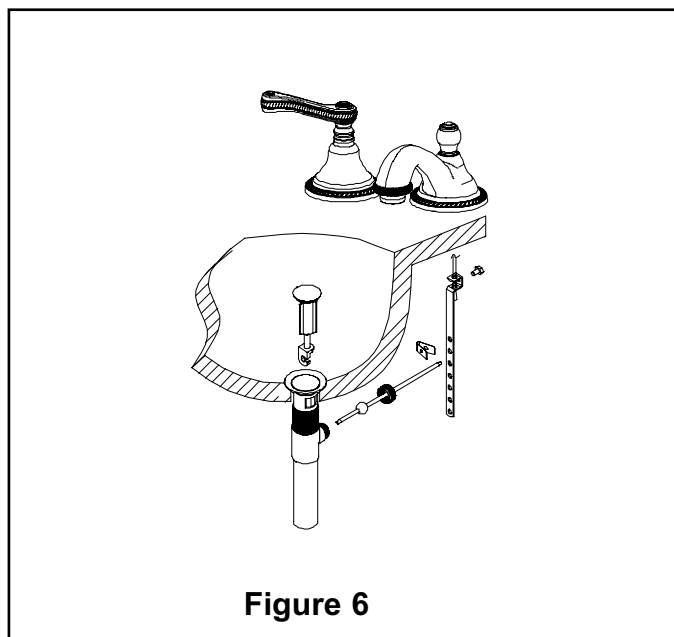

Figure 6
8. Place drain plug into flange. Insert pop-up rod through spout and secure to strap, approximately 1" from end of rod, with screw. Insert ball rod into the drain's rod opening, secure with ball rod nut. Adjust the rise of the plunger and clip into place. Adjust ball rod and pop-up rod so drain will open and close properly. See Fig. 6